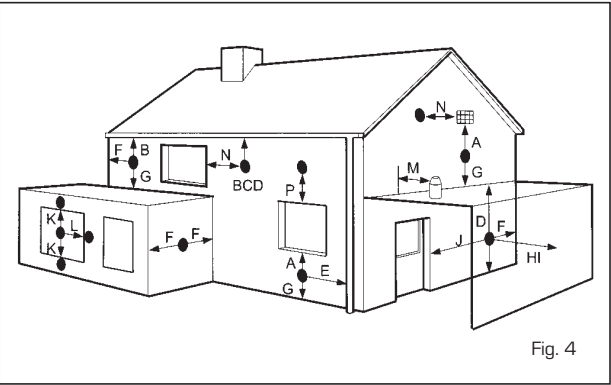

Fig. 4
- **The minimum acceptable dimensions from the terminal to obstructions and ventilation openings are specified in fig. 4.**